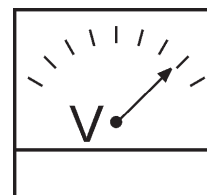

Figure 46. AC Voltmeter
9. The generator's voltage meter (Figure 46) displays the output voltage in **VOLTS**.